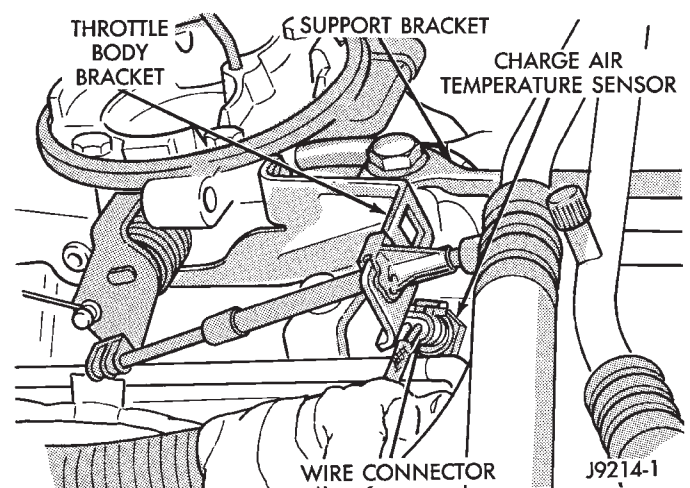

Fig. 26 Air Temperature Sensor—5.2L Engine—Typical
The charge air temperature sensor is located in right-front side of intake manifold (Fig. 26) on the 5.2L engine.
(1) Disconnect electrical connector at sensor (Fig. 26).
(2) Remove sensor from intake manifold.